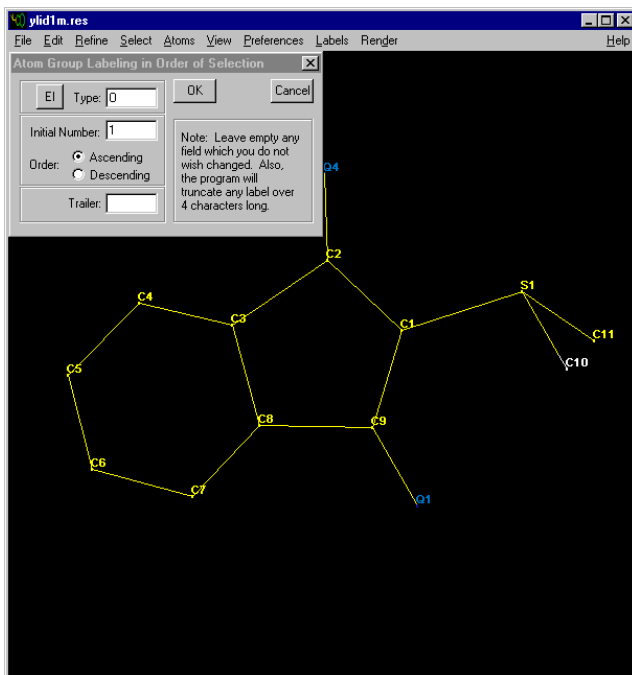

Figure 6-26. Input panel appears
28. Click the O button for Oxygen. A panel appears for you to label these peaks (Figure 6-26).